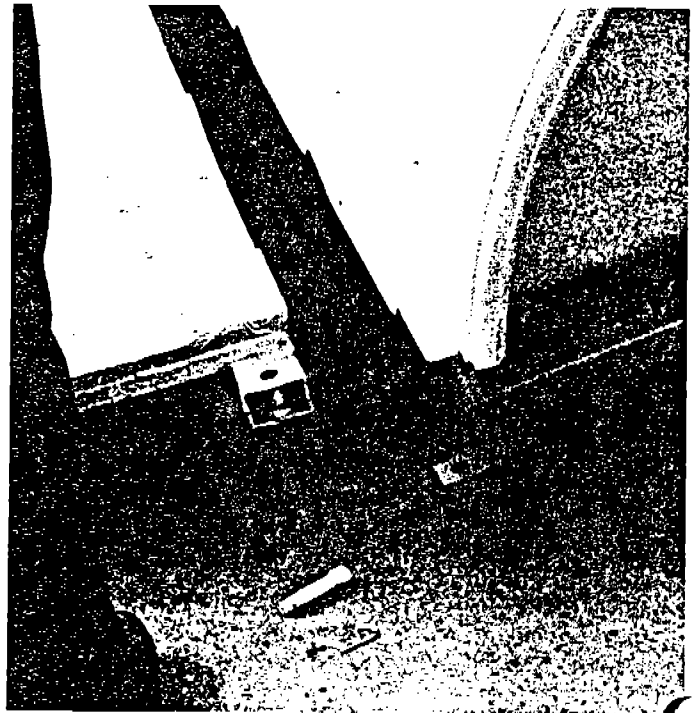

Fig. 39
- b. Fasten the curved tail section to the lower slide frame with 2 pins. (Fig. 39)